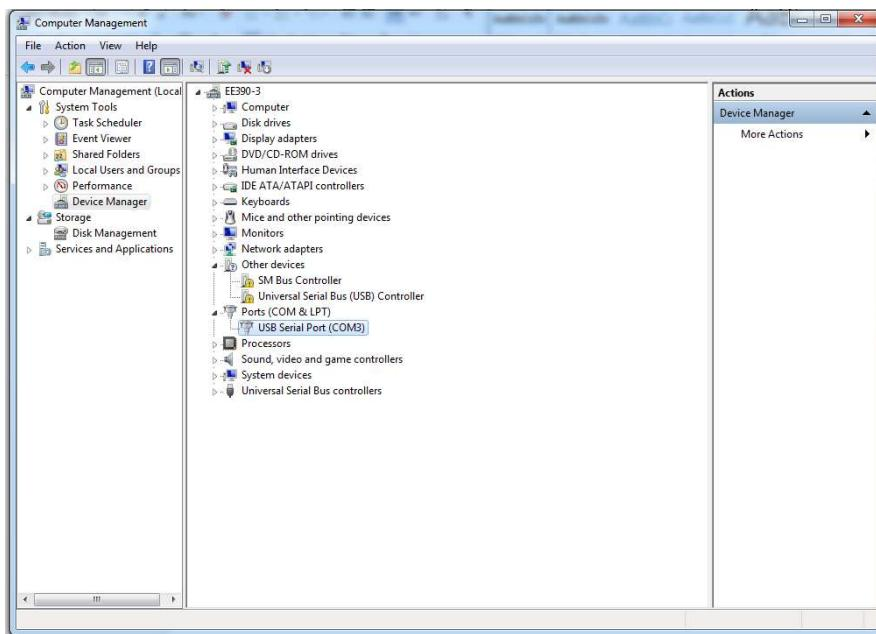
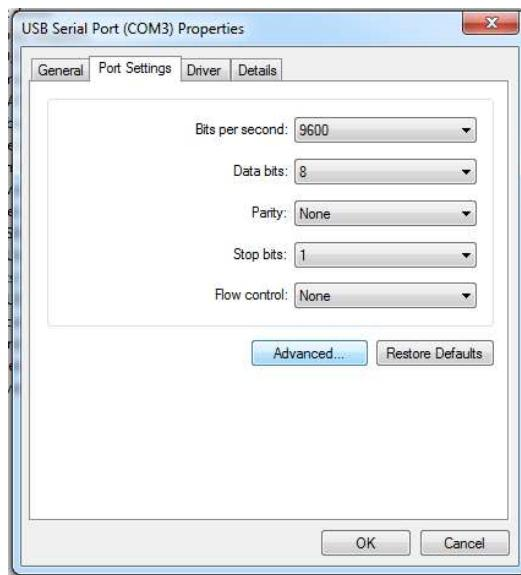

Figure 3.24: USB Serial Port Settings
Figure 3.25: USB Serial Port Properties
- k. Go to Device Manager → Ports (COM & LPT) → USB Serial Port (...) as shown in Figure 3.24. Then Go to Port Settings → Advanced as shown in Figure 3.25.